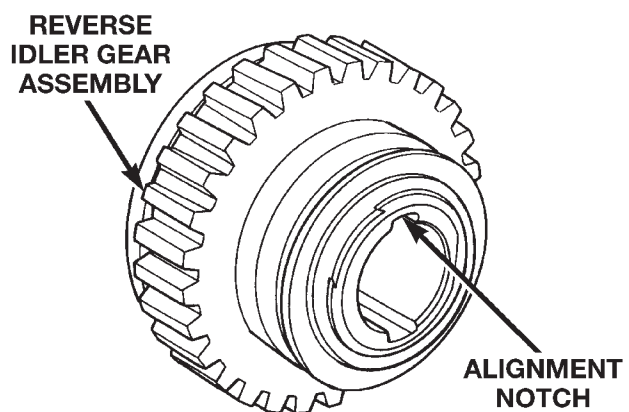

Fig. 91 Align Idler Shaft Pin
(34) Align the pin with the alignment notch in the reverse idler gear assembly (Fig. 91). The alignment notch in the reverse idler gear race/hub is a small relief cut above one of the main longitudinal slots. Be sure that the pin is aligned with the proper slot, the opposite slot has an oil drain hole which the pin will drop into. The assembly will then be locked onto the